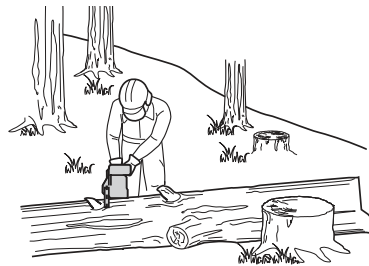

Fig. 46
- > When bucking on a slope always stand on the uphill side of the log (Fig. 46). When “cutting through”, to maintain complete control release the cutting pressure near the end of the cut without relaxing your grip on the product handles. Don't let the chain contact the ground. After completing the cut, wait for the saw chain to stop before you move the product. Always stop the motor before moving from tree to tree.